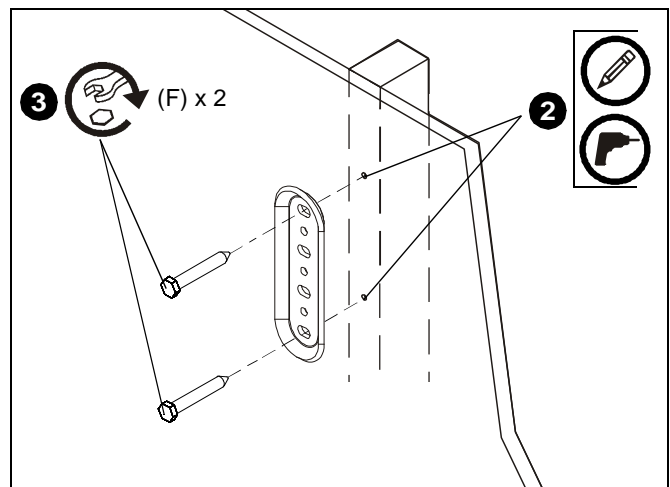

Figure 1
2. Using wall plate (D) as a template, mark then drill two 1/4" diameter x 3" deep pilot holes through top and bottom holes of wall bracket into wall structure. Holes must located at the center of wood studs. (See Figure 1)
3. Install two 3/8" x 3" hex head lag screws (F) through wall plate (D) and drywall into wood stud. (See Figure 1)
4. Ensure wall plate (D) is vertical, then tighten screws (F). (See Figure 1)